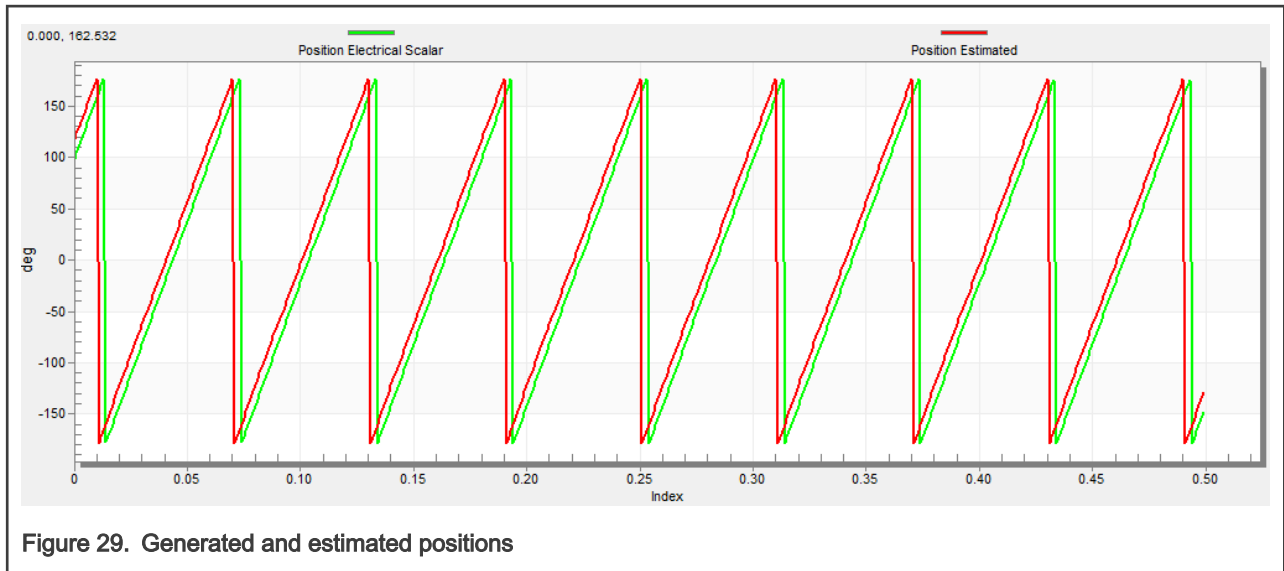

Figure 29. Generated and estimated positions
- Select the “Position” recorder to check the observer functionality. The difference between the “Position Electrical Scalar” and the “Position Estimated” should be minimal (see Figure 29) for the Back-EMF position and speed observer to work properly. The position difference depends on the motor load. The higher the load, the bigger the difference between the positions due to the load angle.